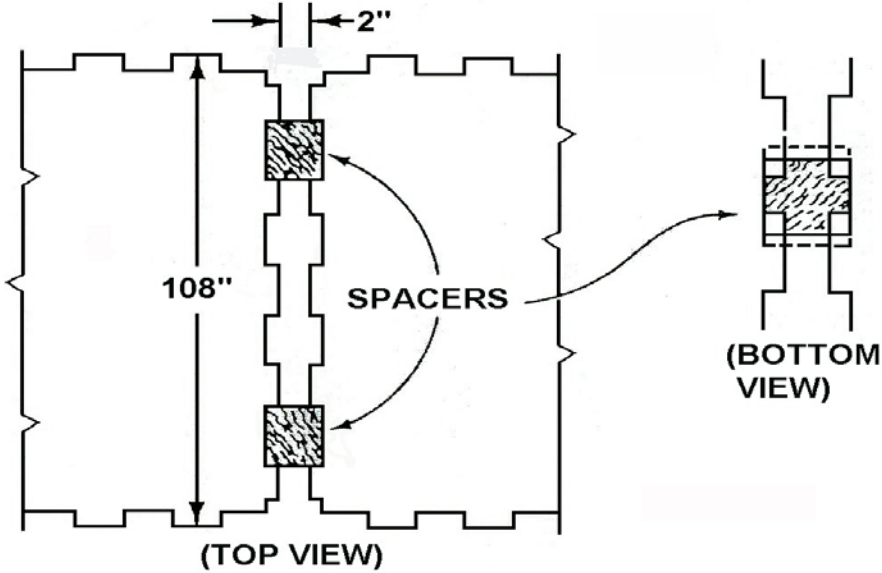

Figure 3-6
c. Place spacers between the pallets between the two ends in the indents and detents (see Figure 3-6).